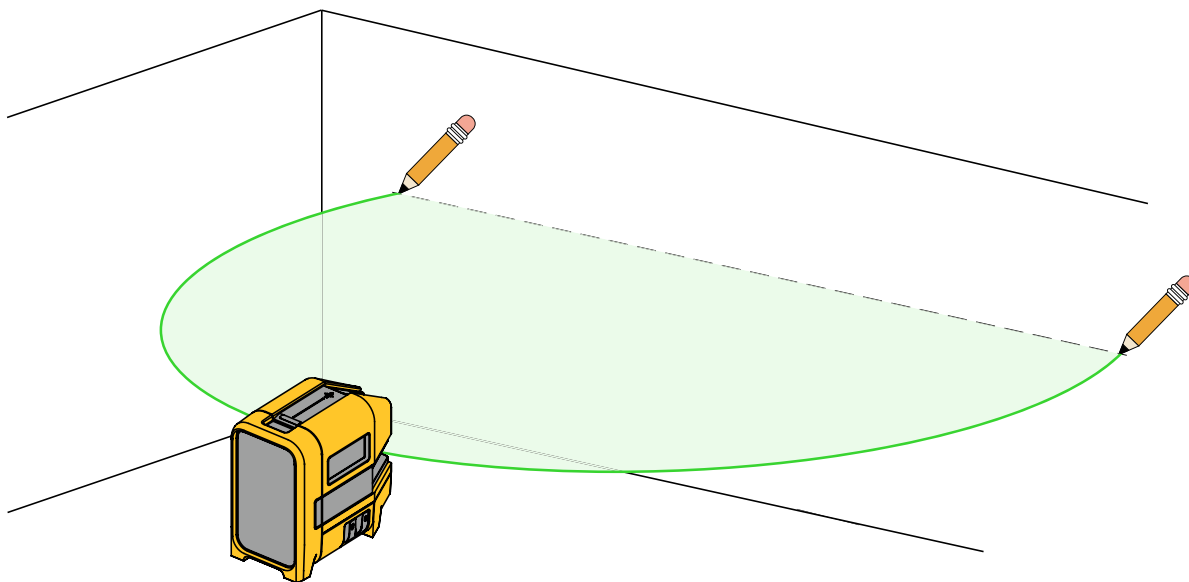

Figure 2. New Horizontal or Diagonal Alignment
2. Turn on the horizontal laser and aim the laser at the target area. See Figure 2.